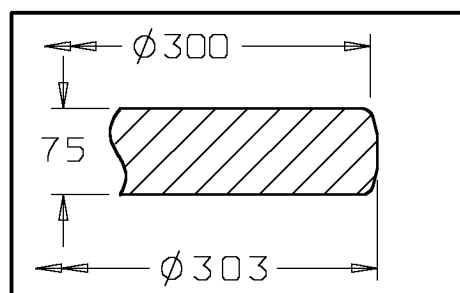

Figure 30 - Close Trim/Finished Part
**13.1.2 Close Trim** - Close trim is required when the surface is dimensioned to the origin of draft and to the trim line and only half of the draft is shown pictorially as illustrated in Figure 30. Tolerance is provided by the general profile tolerance in the **DIM AND TOL** block.